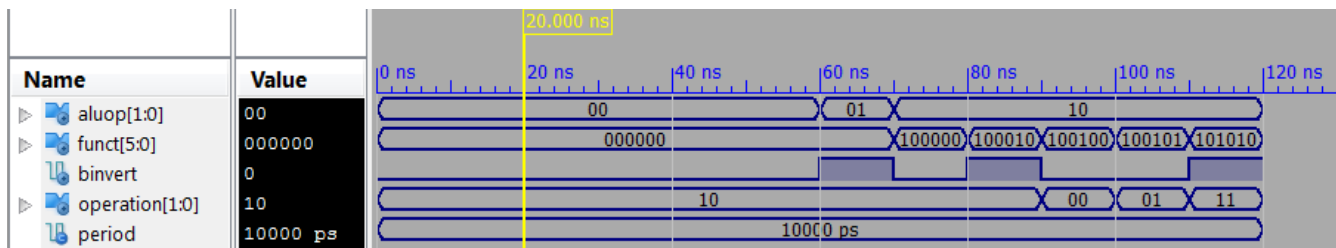

Figure 10: Waveform obtained from ALUControl_tb.
The data flow of execution of instructions (1) `lw $t0, 0($s0)`, (2) `slt $t2, $t0, $t1`, (3) `beq $t2, $zero, LAB_t1ELTt0`, (4) `j LAB_SAVE`, and (5) `sw $t3, 8($s0)` are shown in Fig. 10 to 14, respectively. These five instructions are picked from instructions coded for the absolute difference calculation program such that each represents different instruction class.